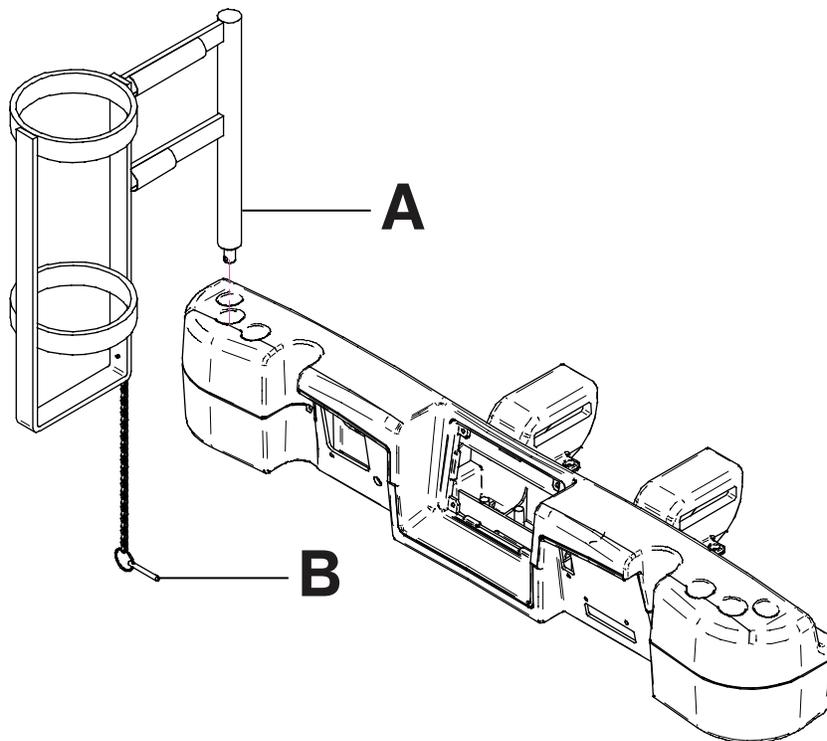

Figure 93: Upright oxygen bottle holder
1. Insert the support bar into the socket at the head end or foot end of the product on either side (A) (Figure 93 on page 99).
2. Insert the security chain pin (B) through the support bar hole (Figure 93 on page 99) to secure the bottle holder to the product.